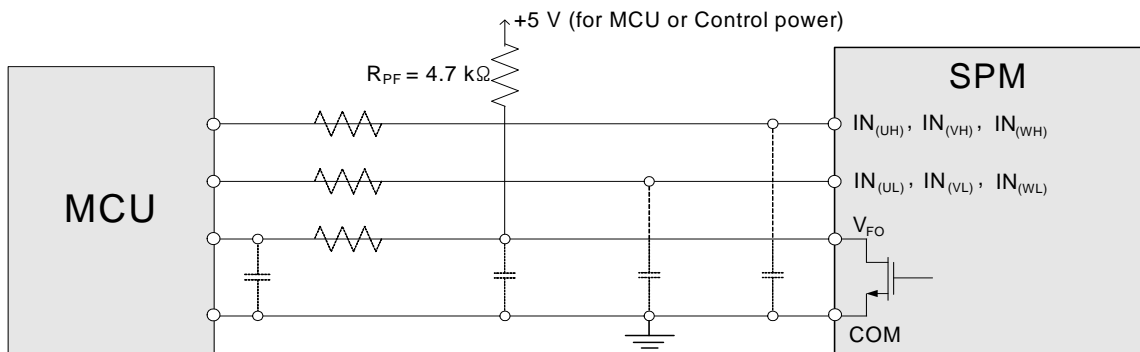

Figure 14. Recommended MCU I/O Interface Circuit
3. V_{FO} output is open-drain type. This signal line should be pulled up to the positive side of the MCU or control power supply with a resistor that makes I_{FO} up to 1 mA (please refer to Figure 14).